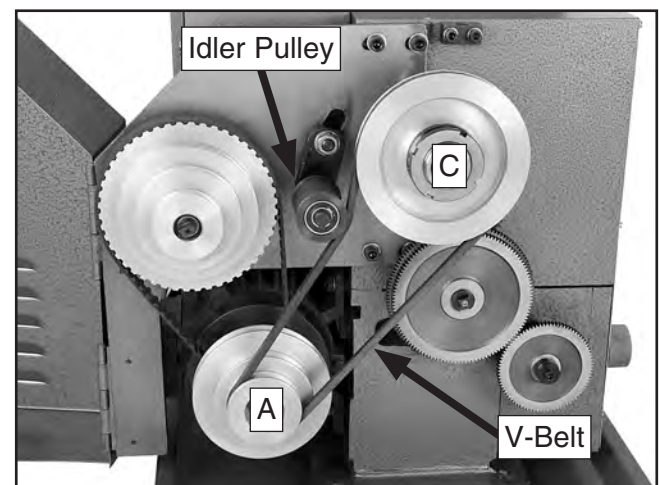

Figure 49. V-belt in the "A-C" configuration.
- Use **Figures 49–50** to identify the "A", "B", and "C" pulleys. Also, note the location of the idler pulley.
— For "A–C" configurations (see **Figure 49**), position the longer V-belt (32" in circumference) in the correct "C" pulley slot, then roll it onto the "A" pulley.